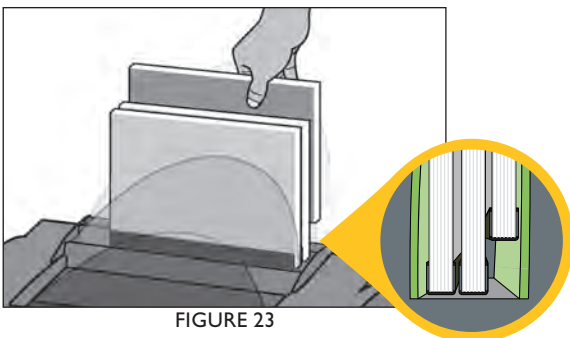

FIGURE 23
- HINT:** Rest the book directly against the cooling rack. If there are other books there, it should be placed at the back of the stack instead of in front of another book. (fig 23)